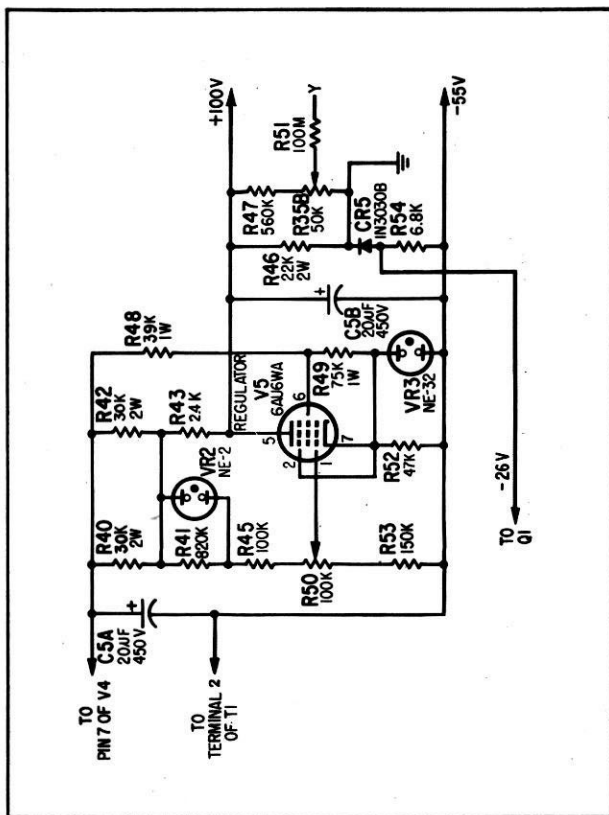

Figure 4-8. Voltage Regulator Circuit, Schematic Diagram
g. VOLTAGE REGULATOR CIRCUIT (see figure 4-8). - Design of the voltage regulator is such that it insures stable regulated B+ voltage for tubes V2 and V3 despite variations in load demands or in supply voltage fluctuations. Regulation of the entire B supply is accomplished by a shunt-type pentode regulator tube V5.
(1) The negative B supply lead is clamped at a definite level with respect to the chassis ground by gaseous regulator tube VR3. The regulated positive B supply is referenced to B minus through the voltage divider R41, R45, R50, R53 and the gaseous regulator tube VR2. Any tendency of the total regulated B supply voltage to change due to changes in either the load current or supply voltage will cause a change in the voltage drop across the voltage divider. These changes are applied to the control grid of tube V5 in such a relationship as to cause the regulator to correct for the change in voltage.